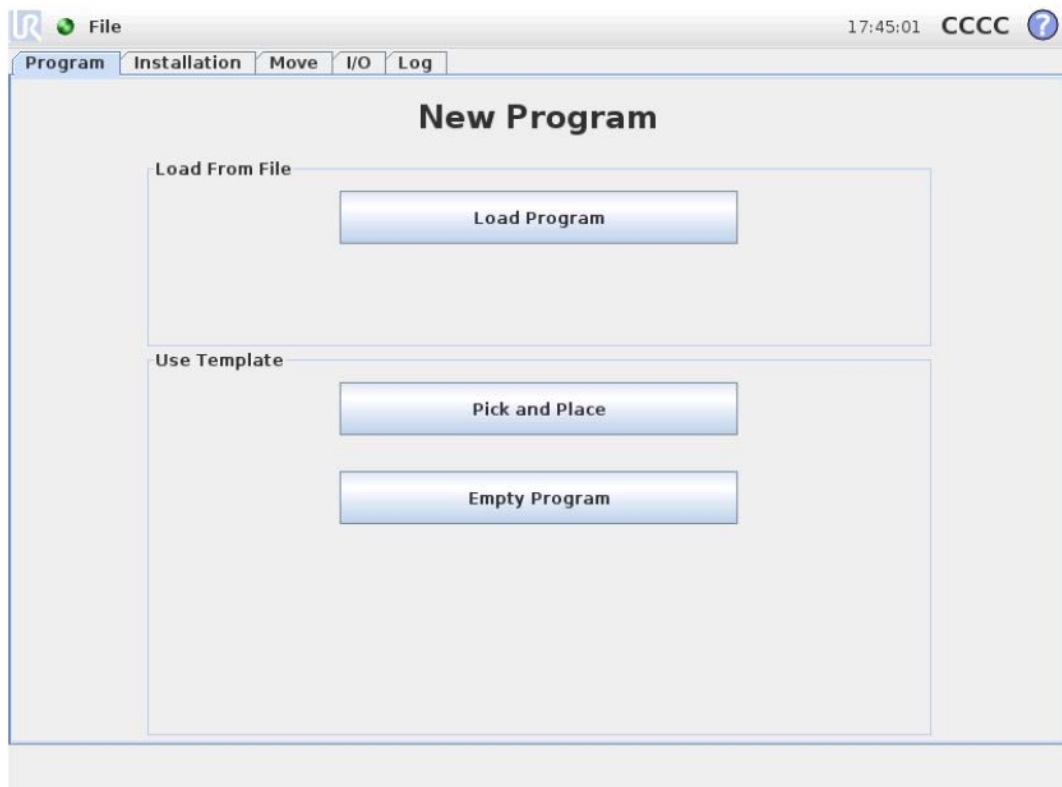

Figure 9 New program screen
2. You will then be asked to load a program, use a predefined program template, or use an empty program (Figure 9). Press the “Empty Program” button.